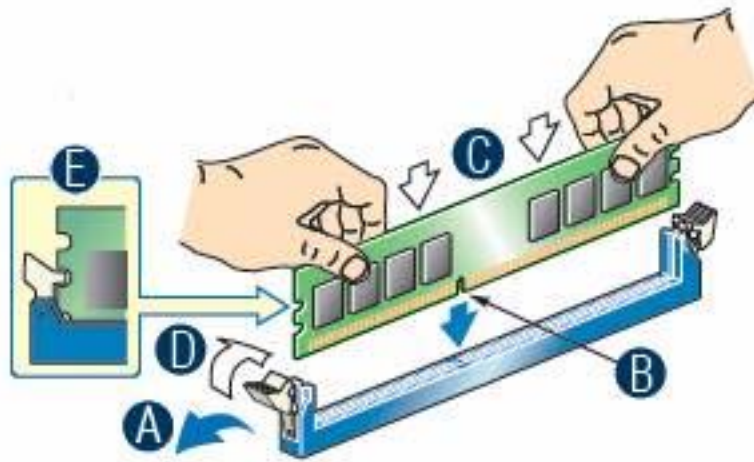

Figure 7. Installing Memory
4. Remove the server’s cover and locate the DIMM sockets (see letter “A” to “E” in Figure 7).
5. Make sure the clips at either end of the DIMM socket(s) are pushed outward to the open position (see letter “A” in Figure 7).
7. Position the DIMM above the socket. Align the two small notches in the bottom edge of the DIMM with the keys in the socket (see letter “B” in Figure 7).
8. Insert the bottom edge of the DIMM into the socket (see letter “C” in Figure 7).
9. When the DIMM is inserted, push down on the top edge of the DIMM until the retaining clips snap into place (see letter “D” in Figure 7). Make sure the clips are firmly in place (see letter “E” in Figure 7).